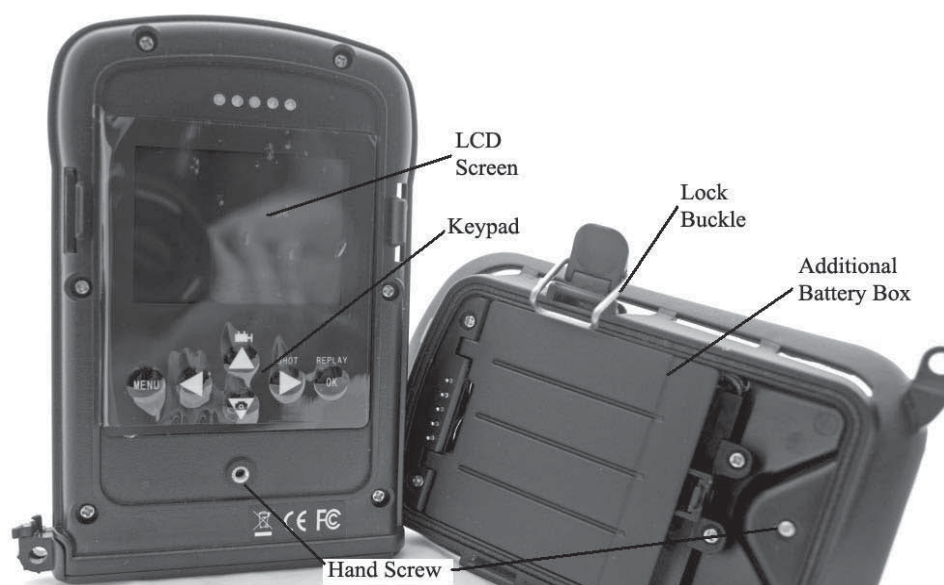

Figure 1.3: Back View of Ltl-5310M and Front View of Battery Box
- Figure 1.3 shows the back view of the camera (Part # Ltl-5310M) and front view of the battery box (Part # LTL-BM1 or LTL-MM1)